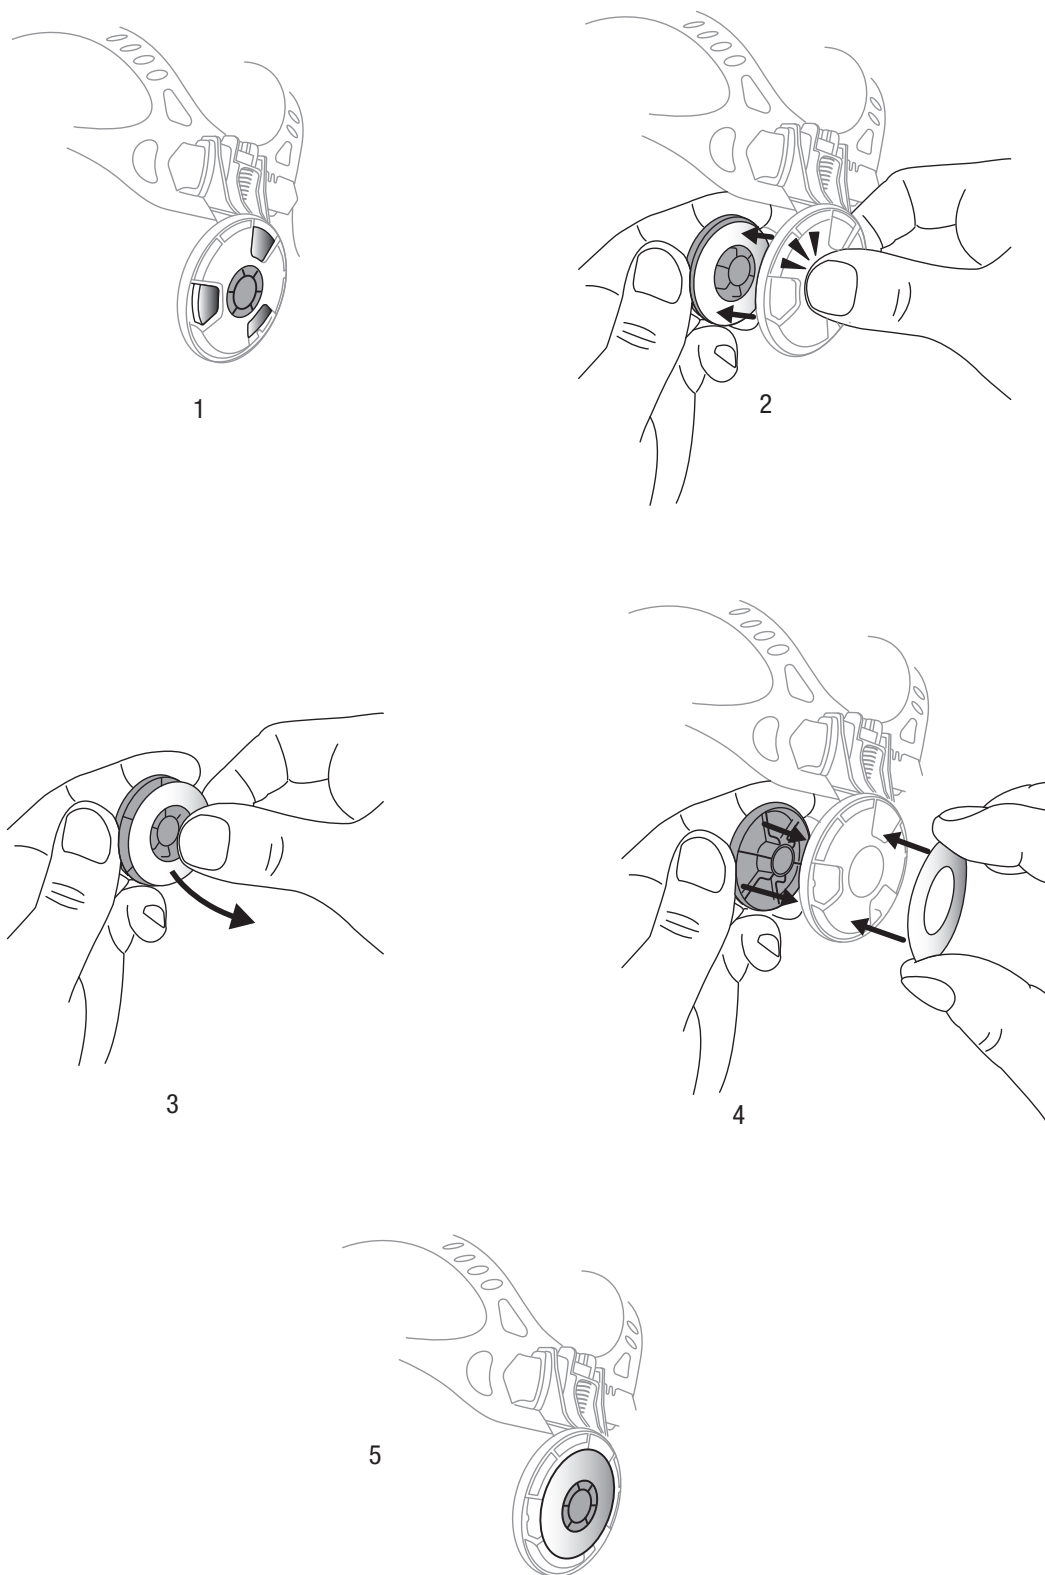

Fig. 6c
- c. The parking stop may be disabled by unscrewing the left pivot knob, pulling off the retaining washer, removing the stainless-steel washer, replacing the retaining washer, placing the stainless-steel washer over the retaining washer (stainless-steel washer moved from inside to outside the retaining washer) then reassembling the left pivot knob (Fig. 6c).